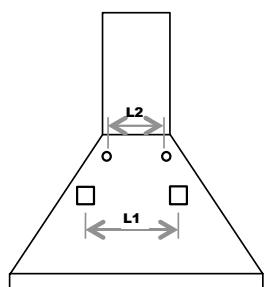

Fig. 5
N.B.: Fixing systems a) and b) fit on to the back of the hood in the holes L1 (Fig. 5).